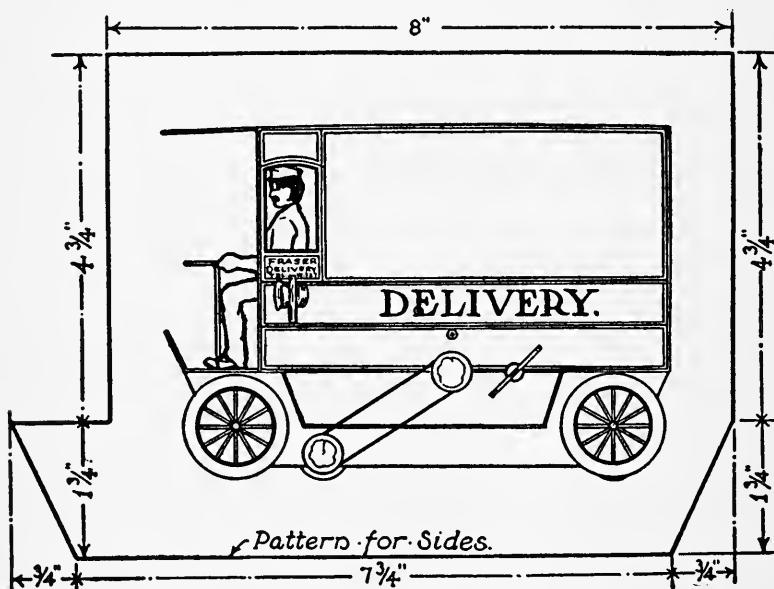

FIG. 390. — An Automobile Delivery Wagon.
An Automobile Delivery Wagon, such as illustrated in Fig. 390. To make this you will require the same frame as that used for the touring-car, with the clock-works and belt-wheels attached in the same manner. If you have made the touring-car, remove the cardboard
**The Cardboard Sides** are much easier to prepare than those for the touring-car, as they are straight and require but little cutting. The outline for these is shown in Fig. 390, surrounding the drawing of the completed wagon. Lay out one side upon a piece of cardboard, using the dimensions given upon the drawing, and then place it upon a board and cut it out with your knife. Using this as a pattern, place it upon another piece of cardboard and run a pencil around its edges, thus marking out the second side. In cutting out the latter piece, run your knife a little inside of the line in order to allow for the increase in size caused by marking it out with the first cardboard side. Having prepared the two sides, draw panels upon them in some such form as shown in the illustration, separating them with three lines. Draw a small window, with its top slightly arched, near the front edge of each side, and cut an opening for it (see illustration).
Make the floor and footboard for the wagon out of a piece of cardboard bent as shown in Fig. 390, and fasten it across the top edges of the projecting portions of the sides with linen strips. Cut a strip for a seat, and fit it between the sides an inch and one-half above the floor.